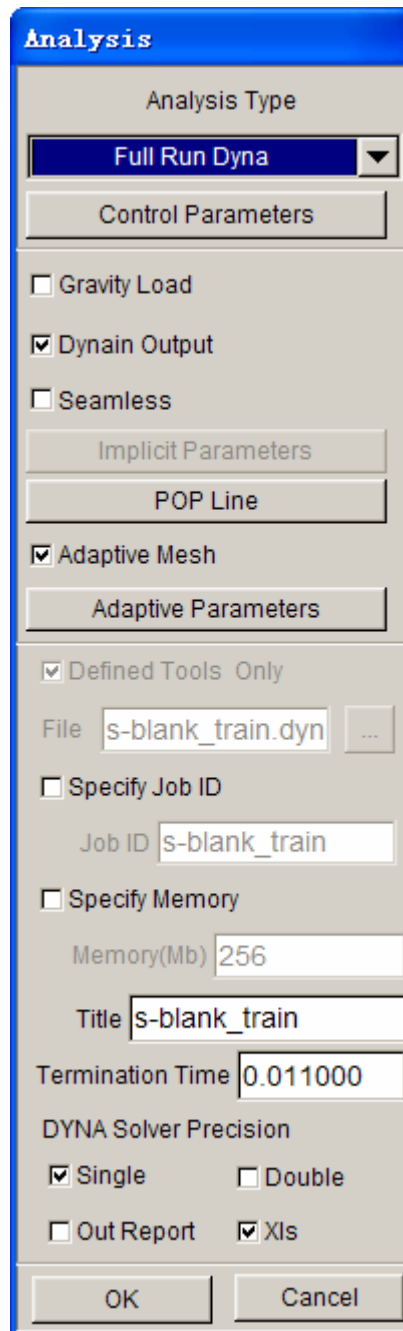

Figure 61: Analysis dialog box
7. To submit the job, click the drop down button of **Analysis Type** to select **Full Run Dyna** (as shown in Figure 61). Next, toggle on “**Specify Memory**” checkbox and key in **120** (Mb). Then, click **OK** button to initiate the solver.